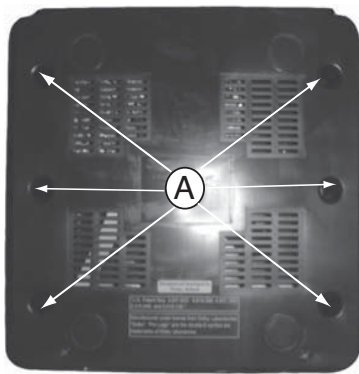

Figure 1
- 1) Loosen 6 screws "A" on the bottom cover as shown in figure 1.